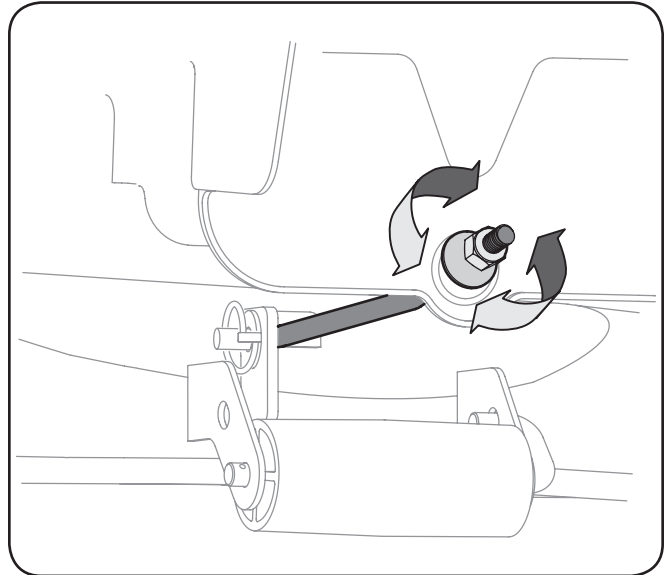

Figure 6-4
1. Locate the flange lock nut on the deck hanger rod as shown in Figure 6-4.
- To *lower* the front of the deck, loosen (thread outward) the hex nut, away from the front hanger bracket. See Figure 6-4.